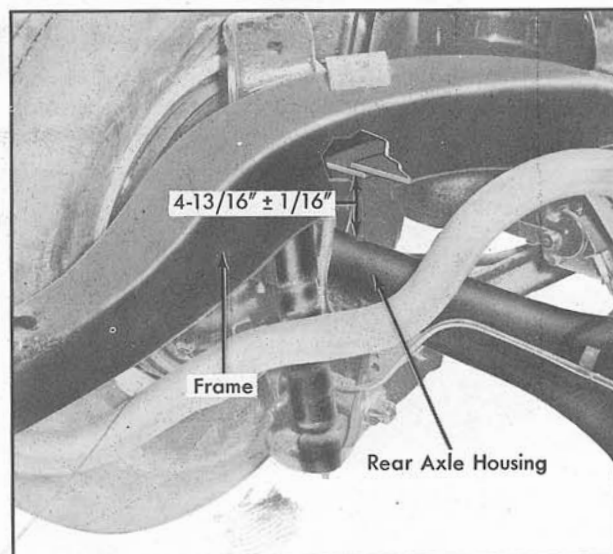

Fig. 4-23 Rear Standing Height Adjustment
2. Measure the distance from the top of the rear axle housing to the underside of the frame at a point directly above the axle housing. This measurement should be $4-13/16" \pm 1/16"$, Fig. 4-23. The rear standing height should be equal within $1/8"$ on both sides of car. If measurements are not within specifications, proceed with Steps 3 through 5, below.